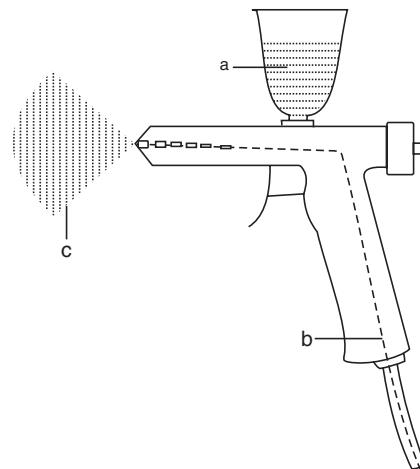

Fig. 15.1 Adhesive application by means of a spray gun (a) Adhesive (b) Compressed air (c) Atomized adhesive.
- (b) Thin-flowing sprayable adhesives are distributed uniformly over large areas with spray guns (Fig. 15.1).